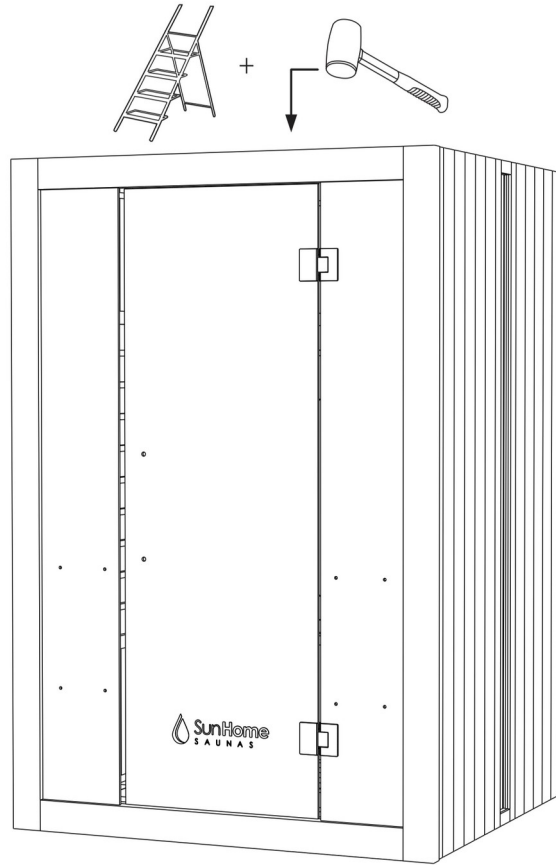

Figure 10. Front Panel (D) buckled to both side panels and tapped down from the ladder.
- Lift the Front Panel (D) and connect its concealed buckles to the buckles on the Left Panel (A) and Right Panel (C) (Figure 10).